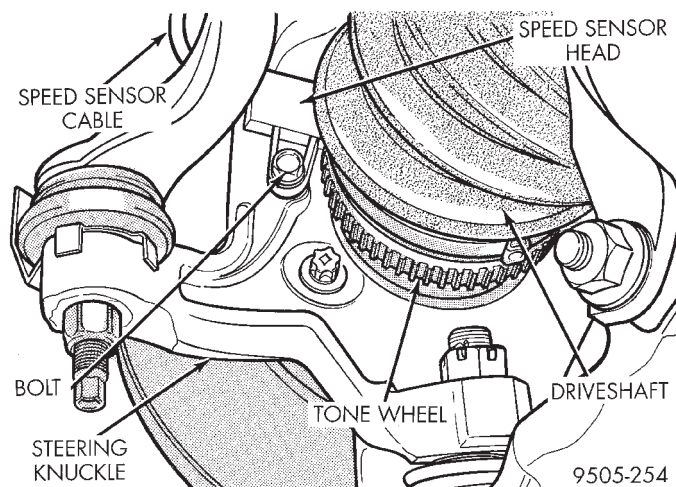

Fig. 34 Speed Sensor Head Attachment To SteeringKnuckle
(5) Remove bolt (Fig. 34) attaching the speed sensor head to the steering knuckle. Then remove speed sensor head from steering knuckle